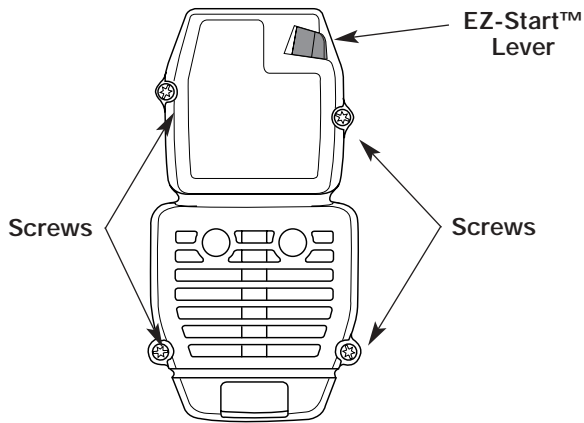

Fig. 47
1. Remove the four (4) screws securing the air filter/muffler cover (Fig. 47). Use a flat blade or T20 Torx bit screwdriver.
2. Insert the four (4) screws into the holes in the air filter/muffler cover (Fig. 47) and tighten. **Do not over tighten.**